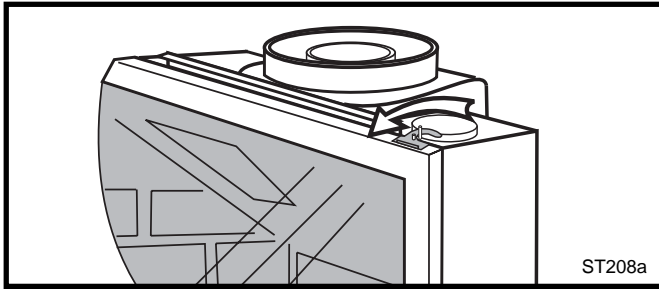

Fig. 60 Release the latches to release the glass frame.
2. Swing open the swiveling latches at the top left and right corners of the glass frame. (Fig. 60, Page 31)
Replace glass only with Vermont Castings approved parts. Refer to Page 34 for Replacement Parts. Refer to Figure 60 and previous instructions for removal of the damaged glass frame.